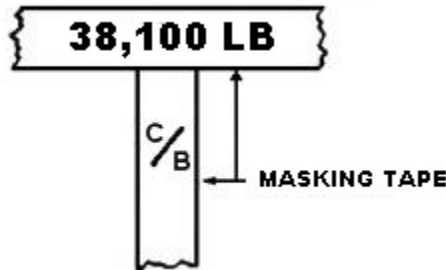

Figure 3-20
- b. Mark CB by forming a T-shape with masking tape or by making "T" with chalk; the vertical portion of the "T" represents the center of balance mark (see Figure 3-20).